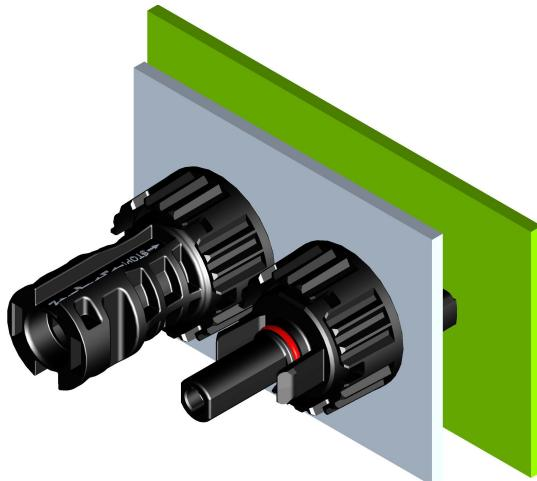

Figure 3
- ◇ 安装公/母面板连接器时，推荐用 2.0 ~ 3.0 N.m 的扭矩锁紧螺母。具体情况，需要由终端用户根据不同的面板验证合适的扭矩(如图 3)。
When installing the male or female panel connector, it is recommended to lock nut by 2.0 ~ 3.0 N.m torque. The appropriate torque has to be verified in the end use according to the respective housing (Fig.3).